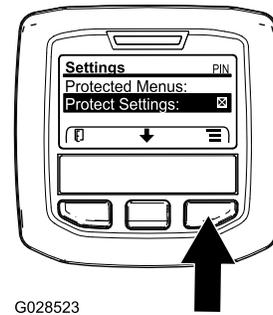

Figure 14
**Note:** If there is no “X” in the box to the right of Protect Settings entry, the sub-menus for L Boom, C Boom, R Boom, and Reset Defaults are not locked with the PIN (Figure 14).
**Note:** An “X” appears in the box to the right of Protect Settings entry (Figure 14).
- Press the right selection button to disable the GeoLink system (Figure 14).